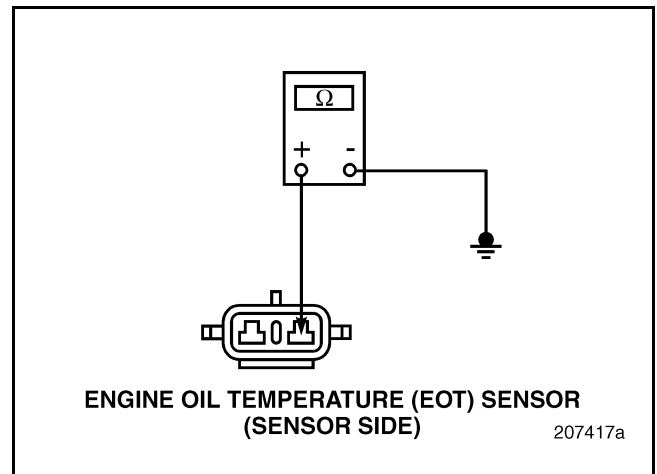

Figure 279
3. Check for continuity between either pin of the EOT Sensor and a good ground (see Figure 279).